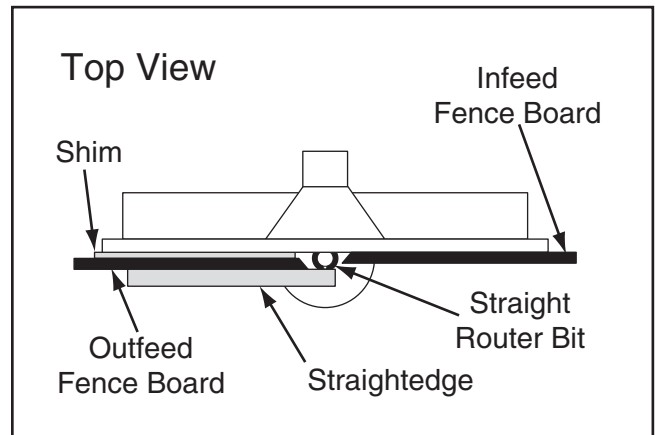

Figure 21. Fence setup for edge jointing (guard removed for clarity).
5. Insert and secure shims between the outfeed fence board and the fence bracket that equal in thickness the amount of material you want to remove from the workpiece face (see the illustration in **Figure 21**).
6. Place a straightedge against the outfeed fence board, then adjust the fence assembly so that the straightedge is also against the bit flute, as illustrated in **Figure 21**.